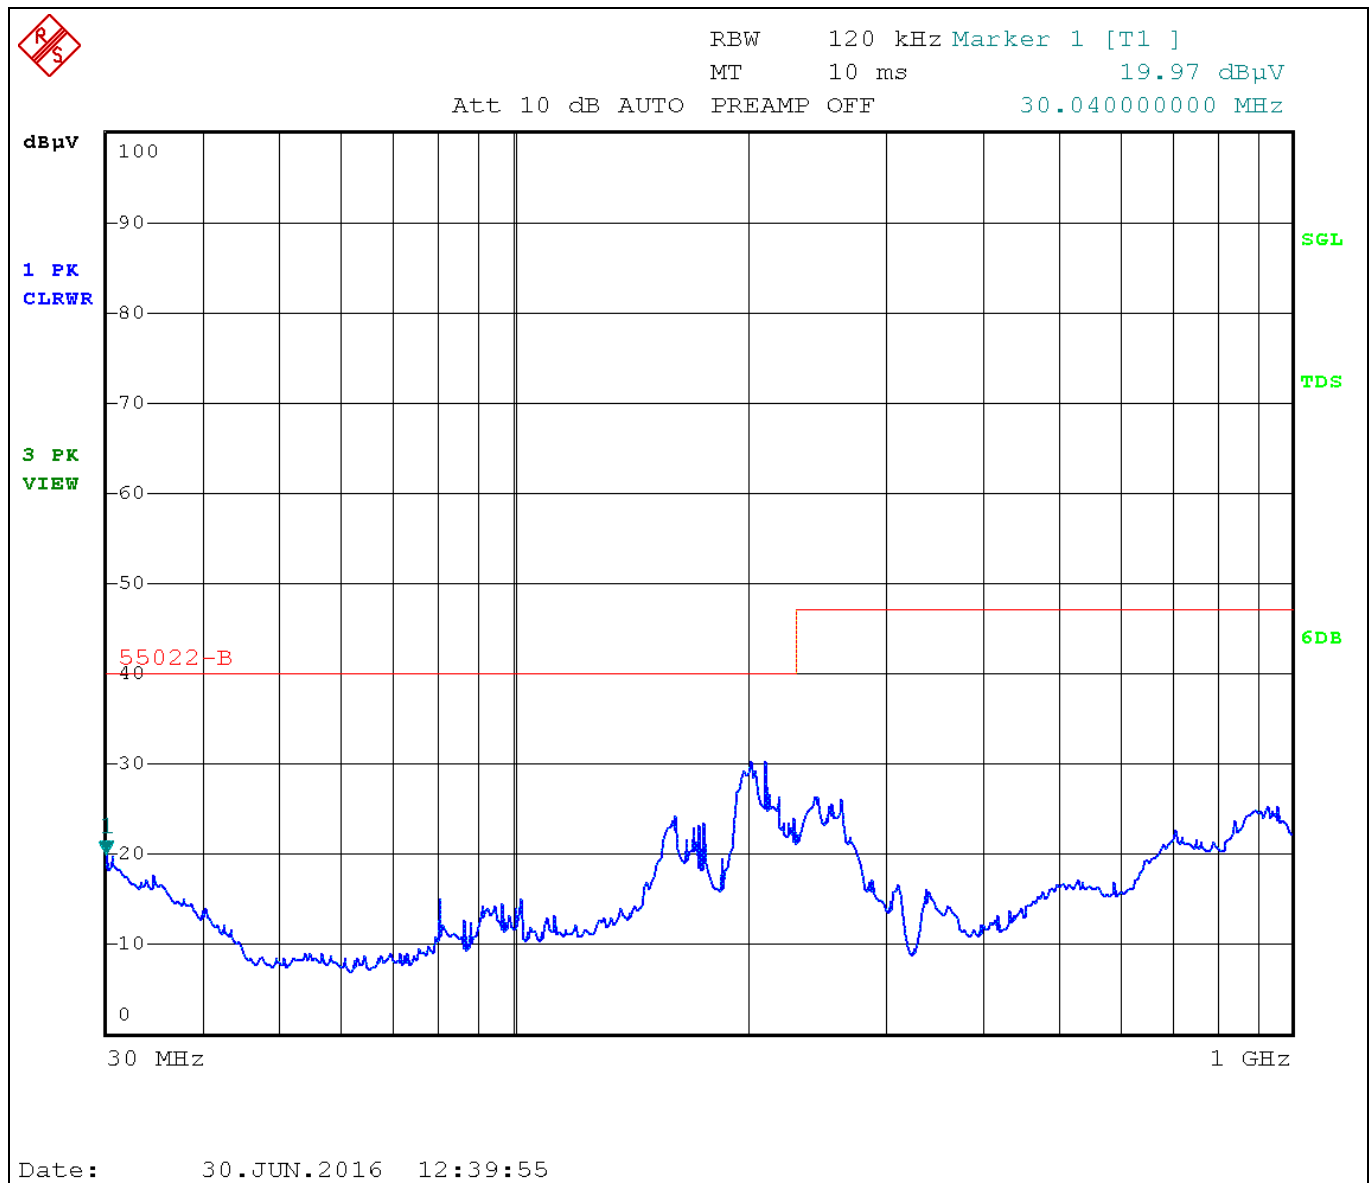

Figure 20 EMI-radiated measurement results. Board positioned perpendicular to the antenna. Antenna position is horizontal
- Board was positioned perpendicular to the antenna and the antenna was horizontal (Figure 20)